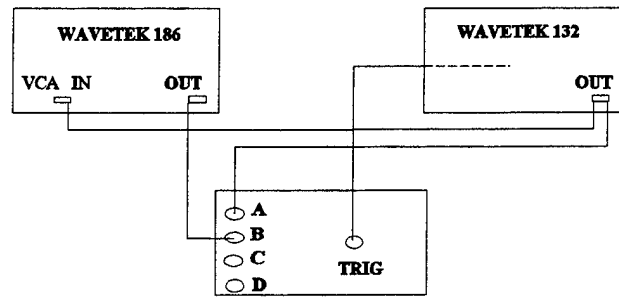

Figure 1
c) Split the message signal at the Wavetek 132 so the output connects to channel A and VCA IN on the Wavetek 186. Your configuration should now look like Figure 1.